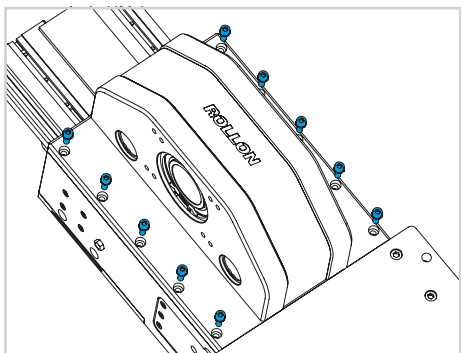
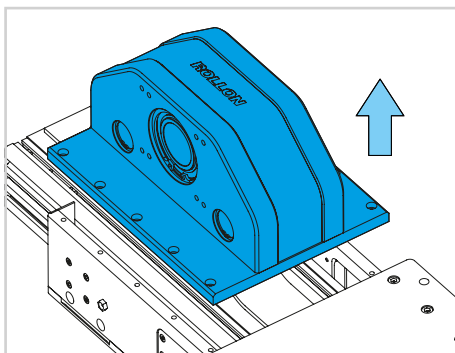

Fig. 13
Fig. 14
- 7) Untight the screws which fix the driving head plate and remove the head from the actuator. Remove the old belt from the driving head (see Fig. 13 and Fig. 14).